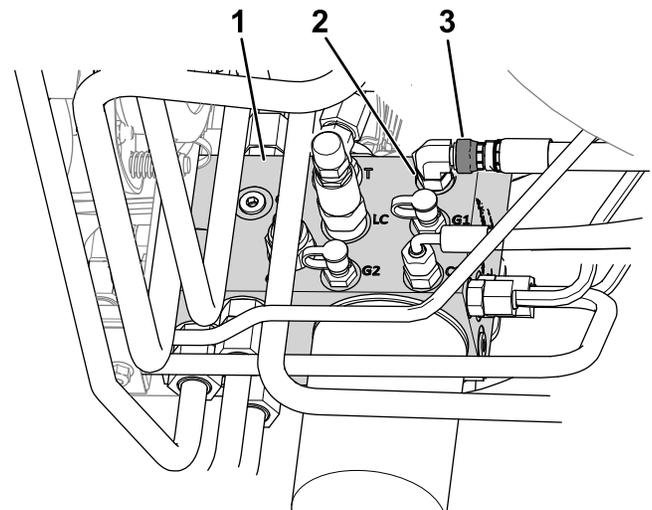

Figure 9
- B. Loosen the hose swivel nut connected to port C1 of the hydraulic manifold (Figure 9).
E. Torque the hose swivel nut on port C1 (Figure 9) to 41 N·m (30 ft-lb).